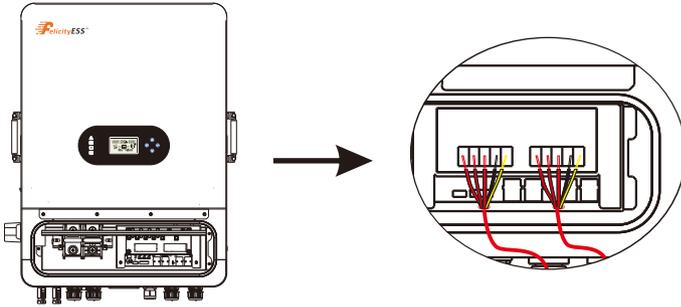

**Figure 4.3-3 Ac connection line**
**Step 1.** Prepare the terminals and AC cables according to the right table. See Figure 4.3-3.